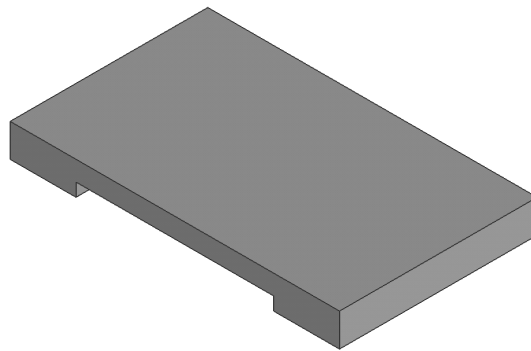

Figure 8-50 The model after creating the rectangular pocket feature
- Create the rectangular pocket using the **Pocket** tool, refer to Figure 8-50.
8. Choose the **OK** button twice and the **Cancel** button once. The rectangular pocket feature is created, as shown in Figure 8-50.